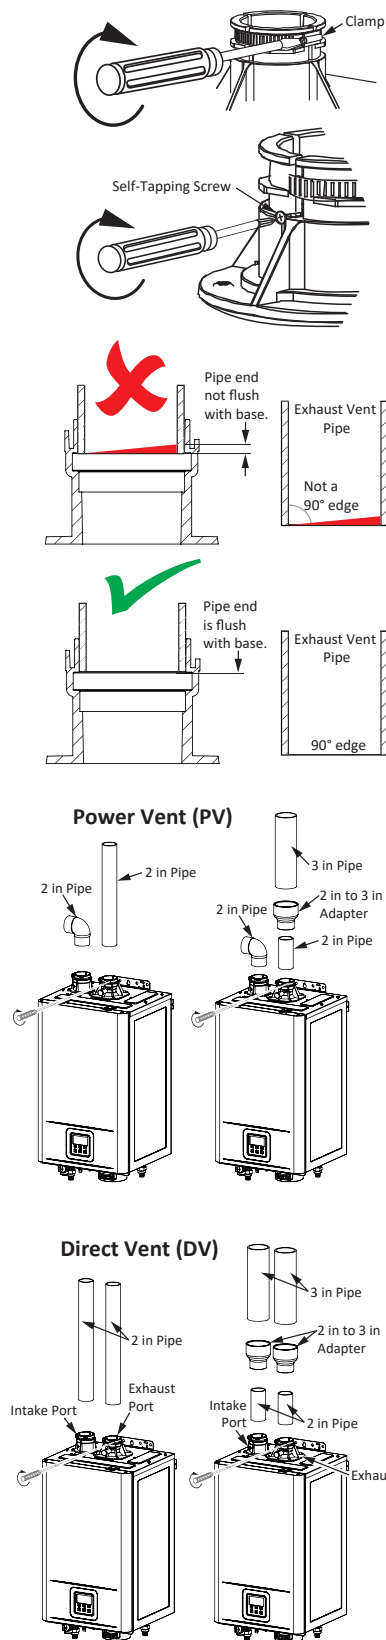

Figure 15 - Vent Pipe Installation
**1** Insert 2 in diameter straight pipe fully into the exhaust/intake connection ports until fully seated (See Figure 15). The pipes will insert at a minimum of 1.5 inches.
- 2** Use a screwdriver to tighten the clamp. (See Figure 15)
- 3** Use the supplied self-tapping screws to secure the venting to the intake and exhaust ports as shown in the image on the right. (See Figure 15)